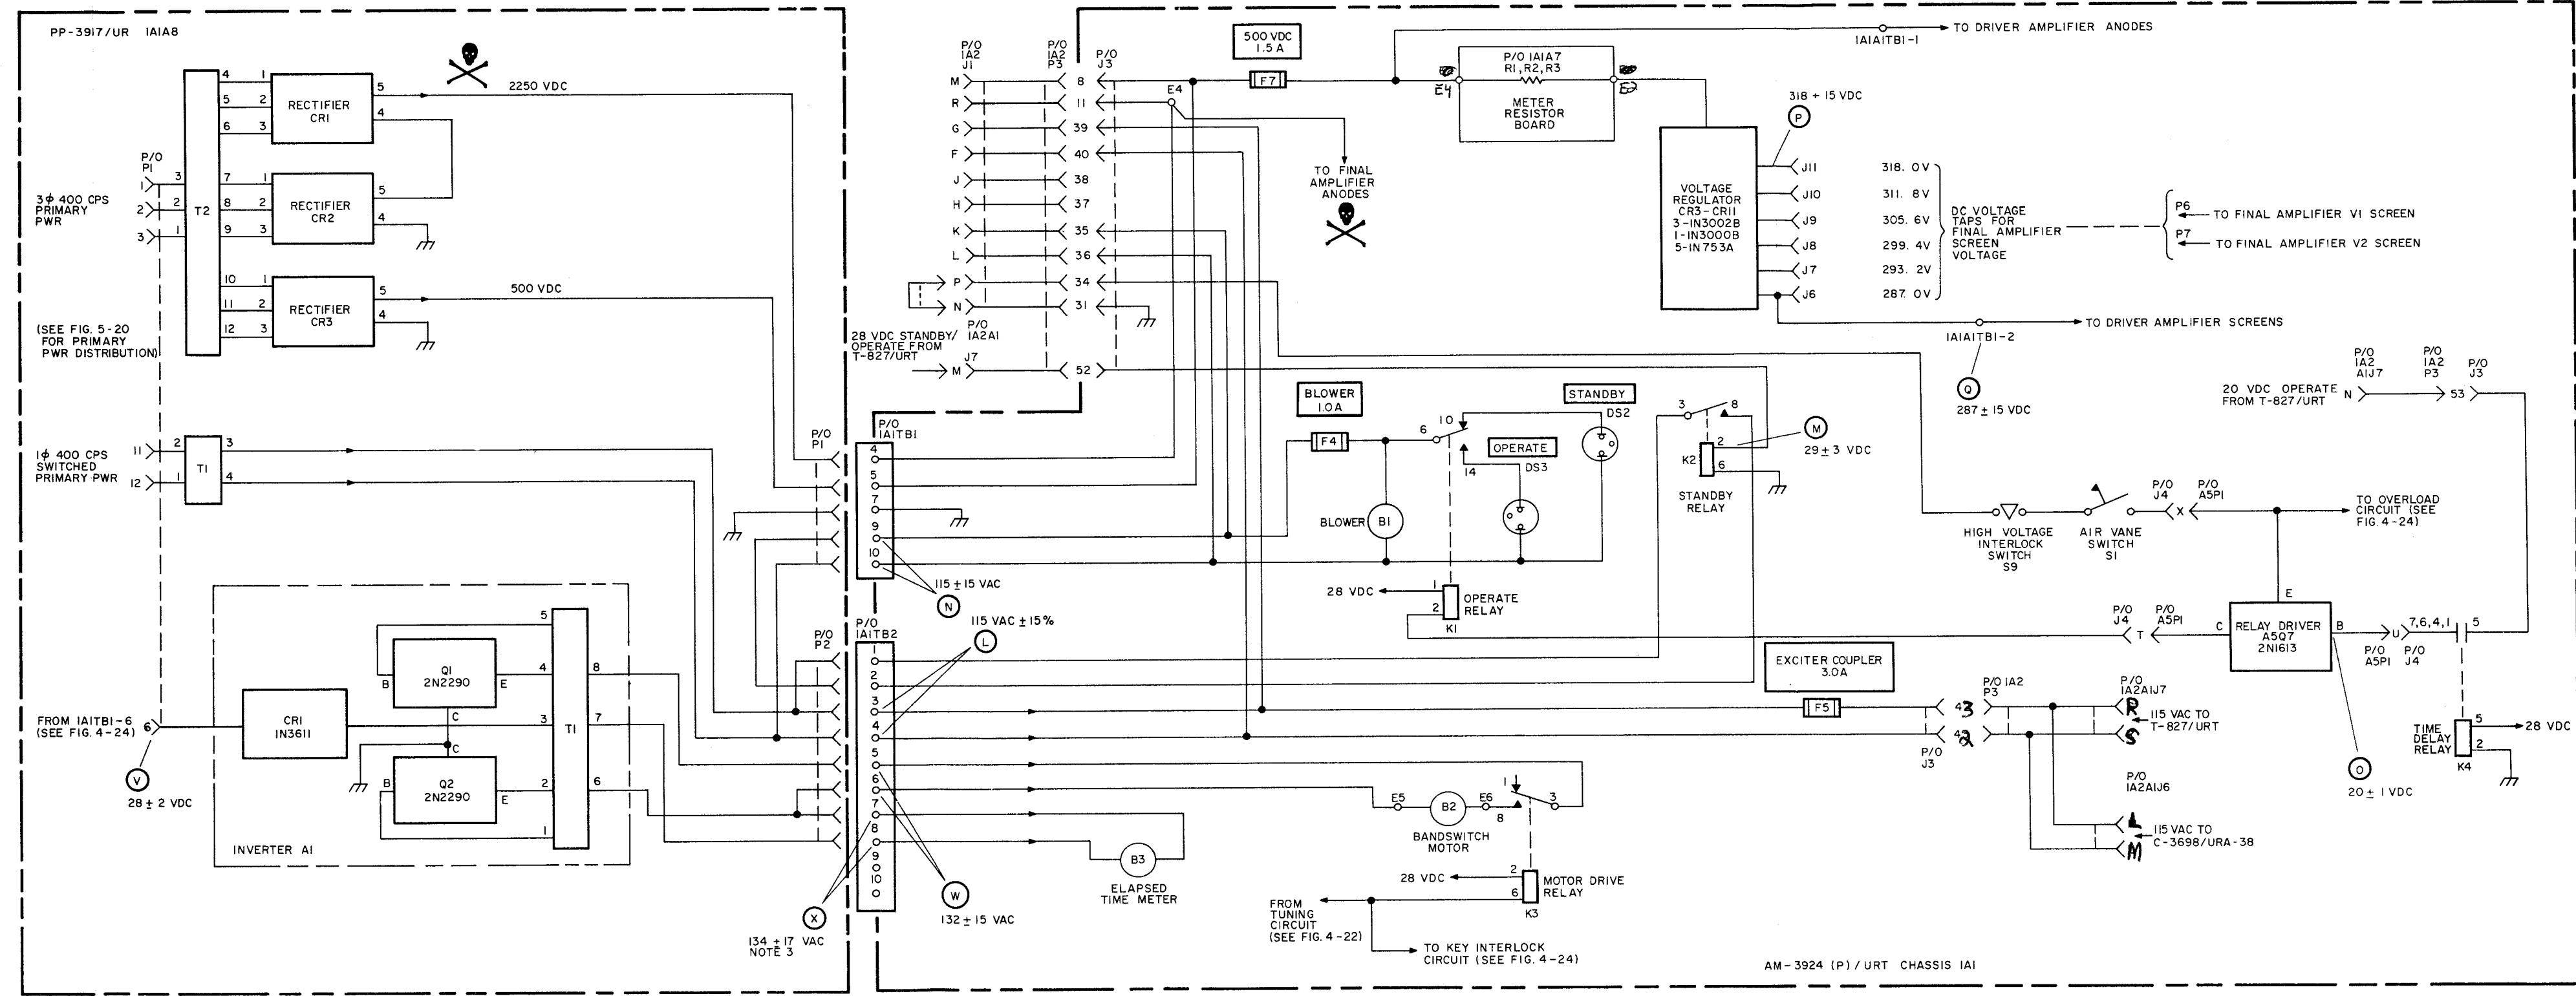

Figure 4-26. 400 CPS High Voltage Dis-
- c. 400 CPS High Voltage Distribution, Servicing Block Diagram, Figure 4-26.
- (1) Multimeter AN/PSM-4